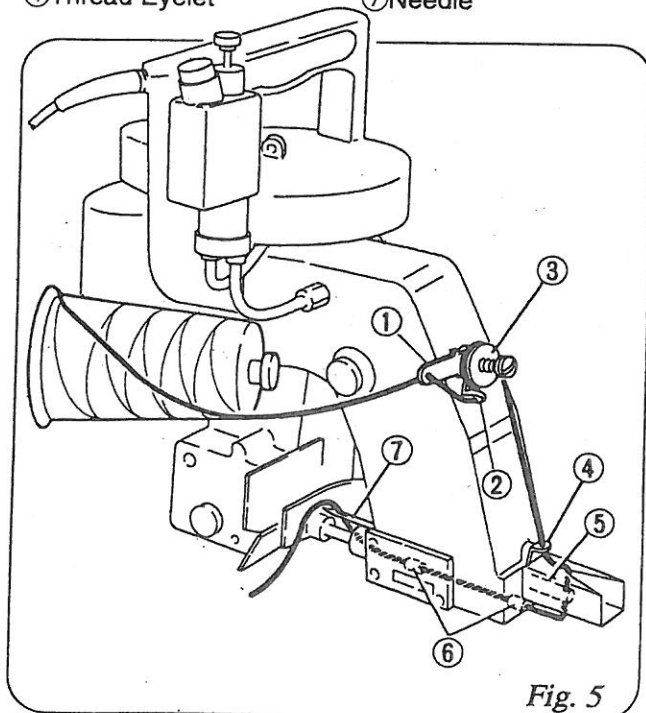

Fig. 5
- Confirm that the machine has been threaded as per Fig.5 in the manual.
3. Threading (Fig.5)
The machine is delivered being threaded to show you proper threading of the machine, which is shown in Fig.5, for identification. Follow the guide numbers 1 to 7 of Fig.5.